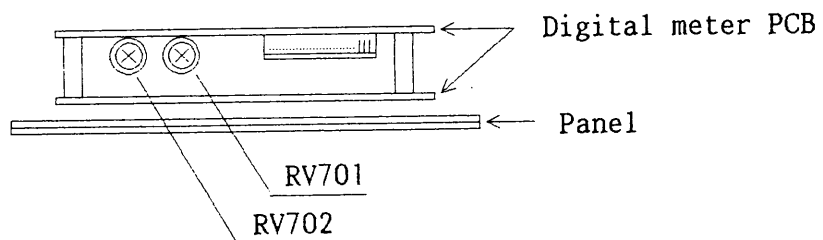

Figure 4-1. Locations of Calibration Potentiometers
- (1) Set the METER EXT/INT switch to EXT (to the pushed-in state). Apply an external calibration voltage of 190.0 mV DC (accuracy 0.05% or better) to the EXT V METER terminals (between HI and LOW terminals). Adjust potentiometer RV701 (see Figure 4-1) so that the digital meter indicates 190.0 ± 1 digits, at ambient temperature $23^{\circ}\text{C} \pm 1^{\circ}\text{C}$ ($73^{\circ}\text{F} \pm 1.8^{\circ}\text{F}$).
- (2) Change the calibration voltage to 1.9000 V DC (accuracy 0.05% or better). Adjust potentiometer RV702 (see Figure 4-1) so that the digital meter indicates 1.900 ± 1 digits, at ambient temperature $23^{\circ}\text{C} \pm 1^{\circ}\text{C}$ ($73^{\circ}\text{F} \pm 1.8^{\circ}\text{F}$).